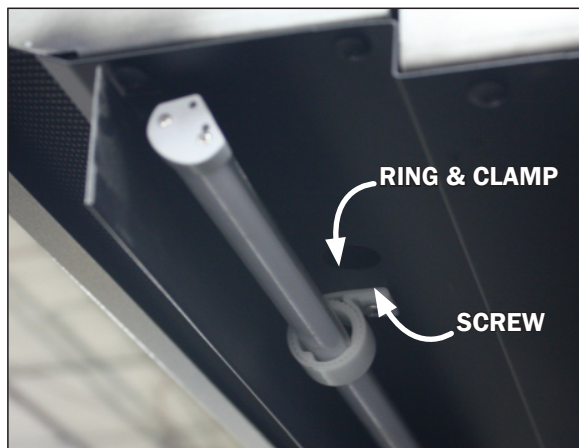

Fig. 8 LED light & ring/clamp
2. Remove the screws from the light clamps (Fig. 8) while keeping ahold of the light. Once the screws are removed the light rod will come away from the case with the clamps still holding to the light.